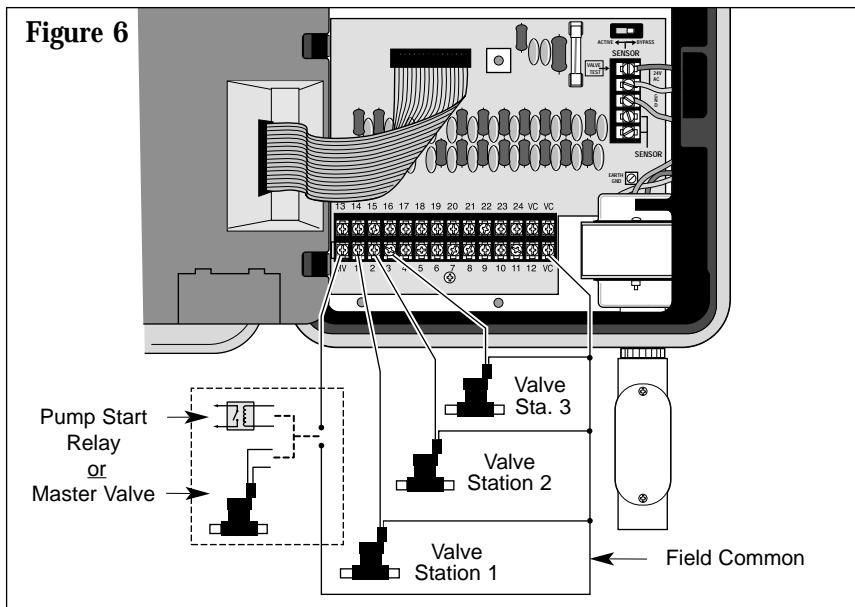

Figure 6
5. Referring to **Figure 6** connect each valve control wire to the appropriate station number terminal. If an optional master valve is installed, connect its control wire to the terminal labeled "MV." Tighten all terminal screws securely.
1. Connect the master valve output terminal (MV) to one side of the relay coil.
2. Connect the other side of the relay coil to the valve common (VC) terminal. See **Figures 6** and **7**.